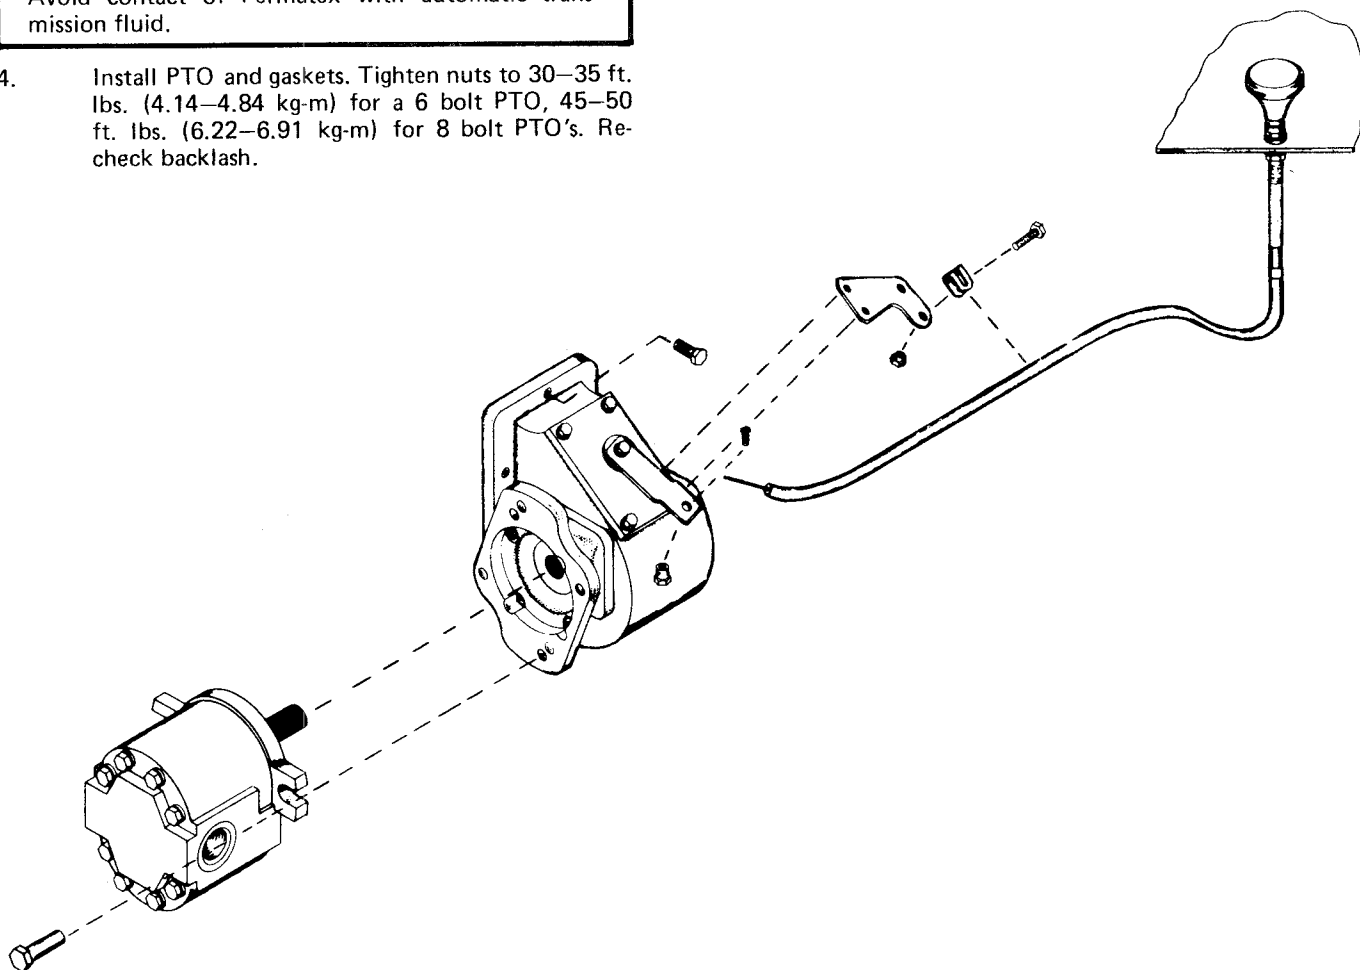

Figure H-4. PTO Installation
4. Install the pump. Ensure that correct pump rotation is employed and tighten the pump mounting bolts (Figure H-4).